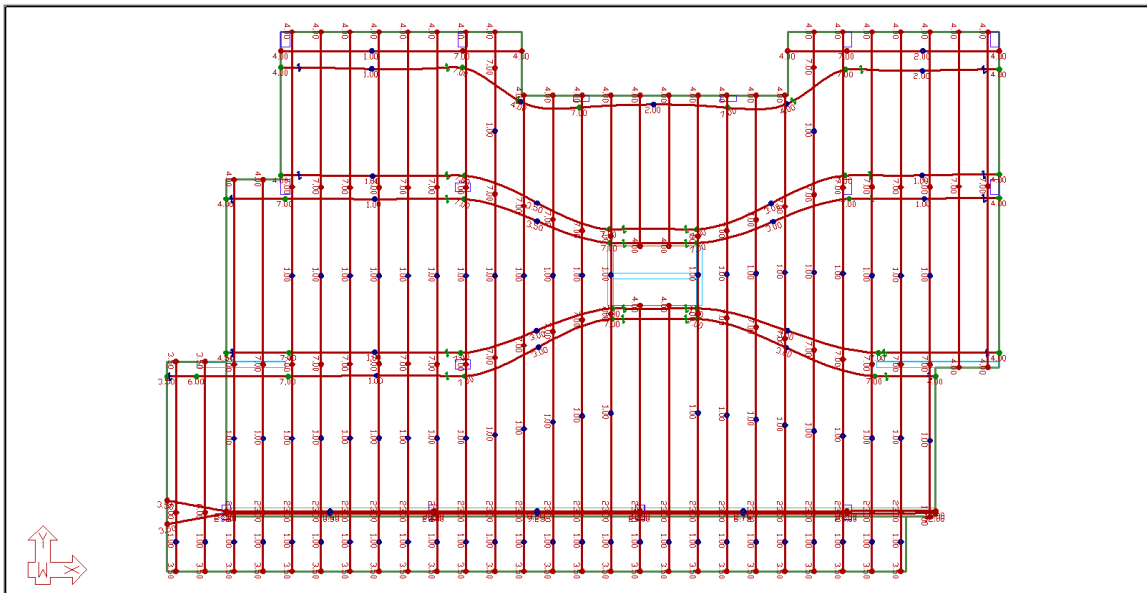

FIGURE 9-76
- Your model should now look like **FIGURE 9-76**.